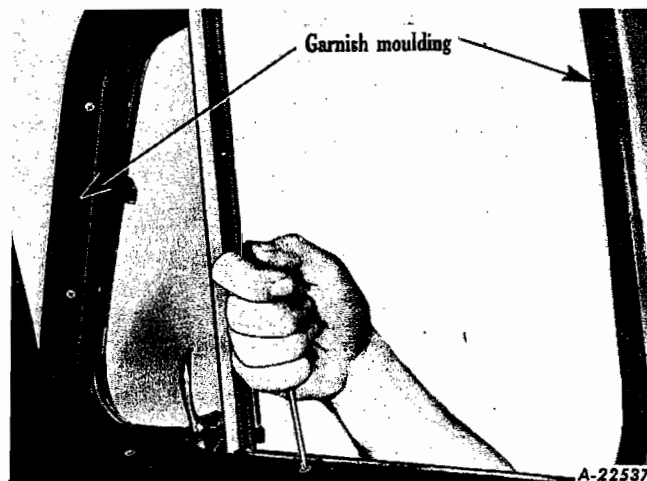

Fig. 10
1. Remove door garnish moulding (Figs. 10 and 6).